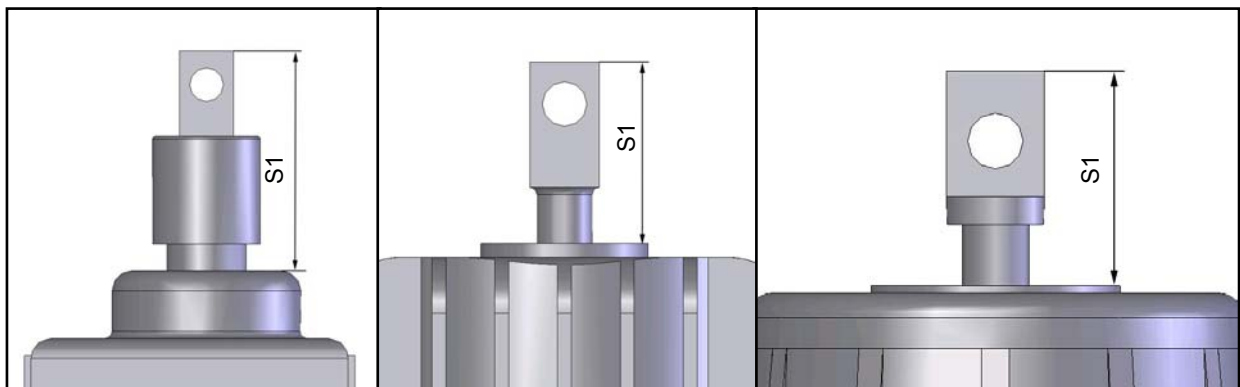

Fig. 8: piston rods of the different ELDRO-thrusters
- Measure  $S_1$  (Fig. 8) with brake closed.
- Turn Nut (3.14) **counterclockwise** until the piston rod of the thruster (Fig. 8) has reached the necessary value for S1 (table 1).